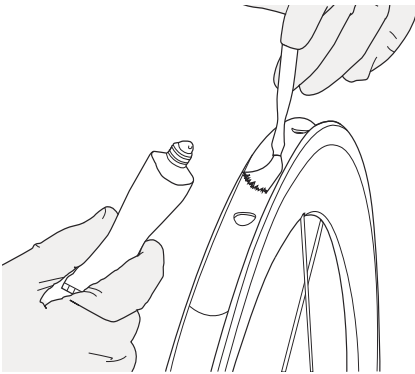

Figure 31. Apply a thin layer of glue to the rim's tire bed.
3. With the acid brush, apply a thin layer of glue to the rim's tire bed, edge to edge, all the way around the rim (Figure 31).